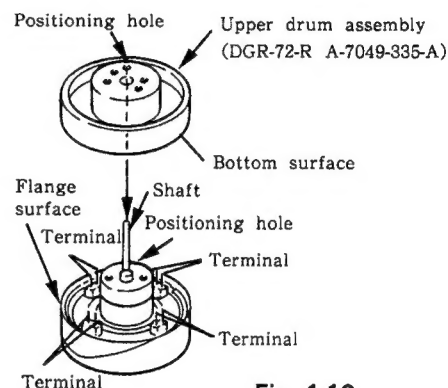

Fig. 1-10.
- ① Clean the flange surface and the new rotating drum's bottom surface. Refer to Fig. 1-10.
- ② While referring to Fig. 1-10, insert the supplied shaft through the jig and into the positioning hole of the lower drum. Slip the shaft into new rotating drum's positioning hole and gently set the rotating drum.